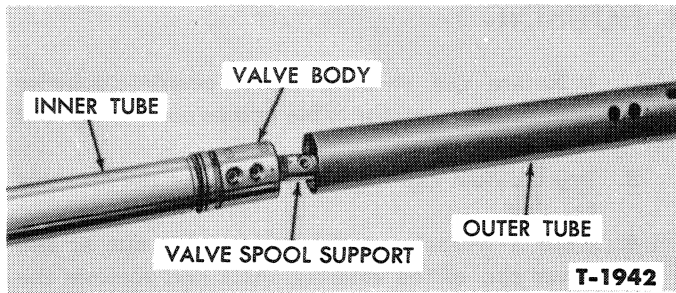

Figure 17—Installing Inner Tube Into Outer Tube
15. Install the valve body with the inner tube and the piston and rod assembly into the outer tube. Make sure the ports in the valve body are aligned with the holes in the outer tube, Figure 17.